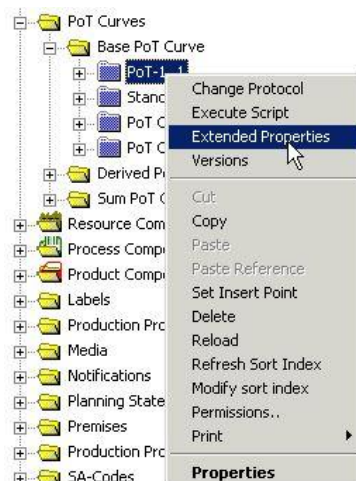

Figure 21: Calling Extended Properties via the Context Menu
- 2) Click **Extended Properties**, the respective dialog for the extended properties opens. *Please refer to the Figure 21.*
- 1) To edit the base PoT curve, open the Extended properties for the generated base curve (*Please refer to the Figure 21.*) via the context menu. *Please refer to the Figure 22.*